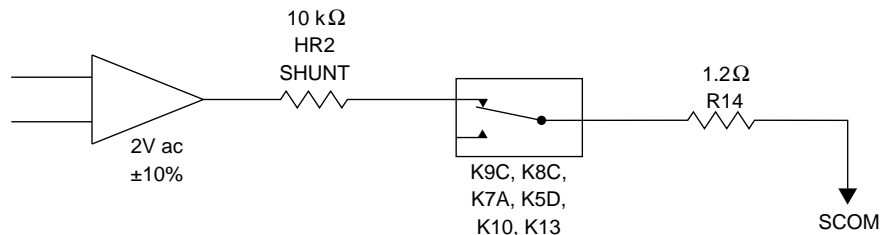

Figure 5-11. Verifying the 220 mA Range of the 22 mA/220 mA Amp Circuit
7. Check the 220 mA Range of the 22 mA/220 mA AMP. Set the 5700A to 200 mA, standby. Set the external ac reference to 4.6V ($\pm 0.1V$) at 1 kHz. Using a DMM measure the ac voltage at the collector of Q6 and verify it is 2.0V ac $\pm 10\%$. If a failure first verify the 10 Ω shunt on HR2 is correct and it's connected to SCOM through relays in K9C, K8C, K7A, K5D, K10, K13, and 1.2 Ω load resistor R14 as shown in Figure 5-11. If the shunt and output switching are correct, check Q6-Q13, K4, and the associated components in the 22 mA/220 mA AMP circuit.